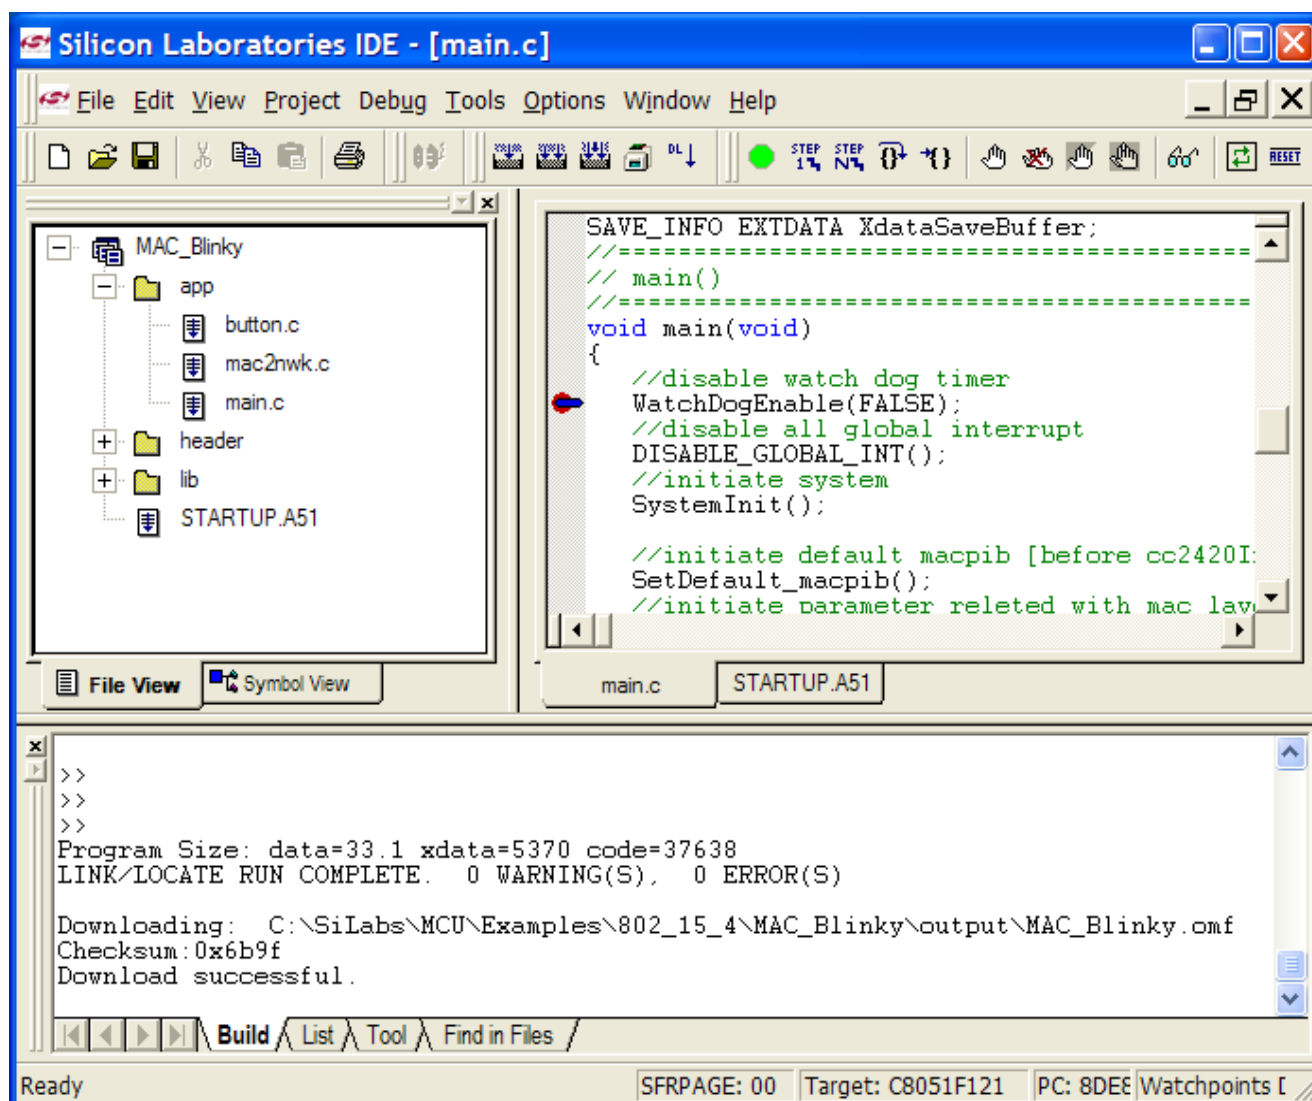

Figure 4. Run to Main
5. Click on the green Go button or select Go from the debug window. Code execution will stop at the breakpoint as shown in Figure 4